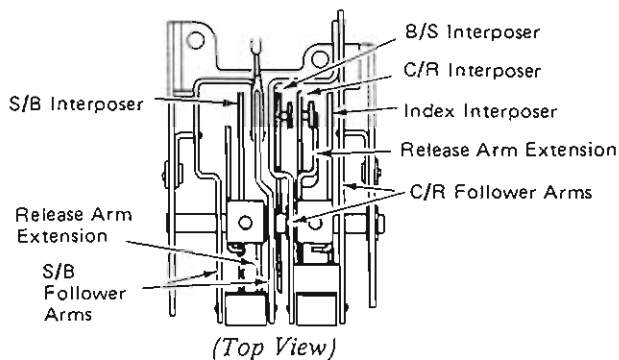

Figure 5
- a. (RB/S) Position the index, carrier return and backspace interposers between the cam follower arms (Figure 5).
- c. Position the clutch release arm to the right of the carrier return interposer (Figures 5 and 7).